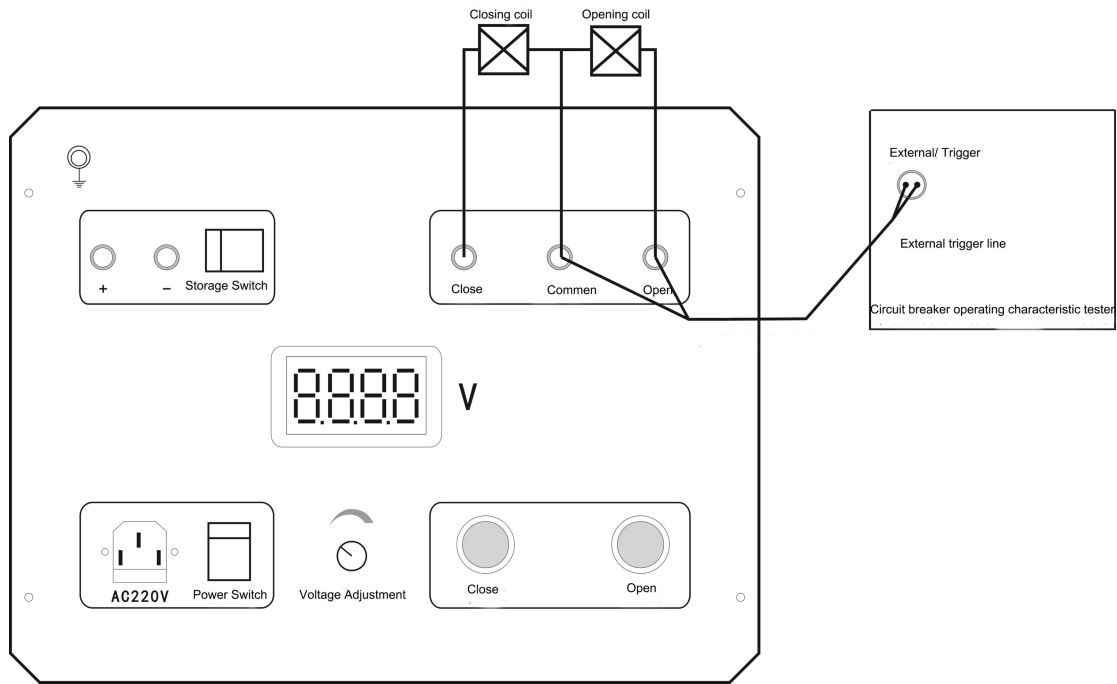

Figure 4
**iv.** When doing the opening test of the output power supply of the high-voltage switch tester, the connection method is shown in Figure 4. The closing, opening and common interface of the tester are respectively connected to the high-voltage switch, and then the two external triggering test wires of the high-voltage switch are connected to the opening and common interface of the tester respectively. The triggering mode of the high-voltage switch tester is set as external triggering. The specific operation is described by the high-voltage switch tester's manual.